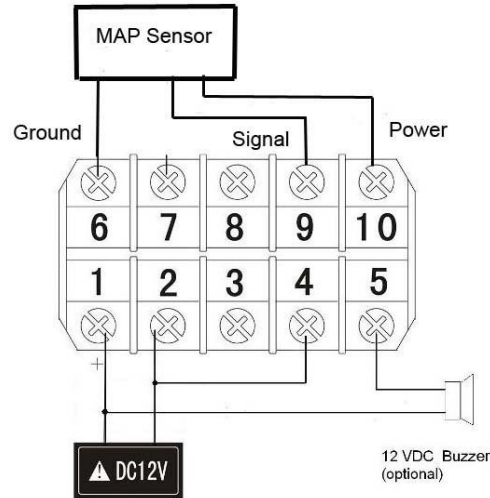

Fig 1. Wiring diagram for SYL-1813 automobile multimeter.
1) Wiring the sensor as shown in Fig 1. Connecting power lead (red) to terminal 10, signal lead (green) to terminal 9, and ground lead (black) to terminal 6. The 12V DC buzzer is optional.